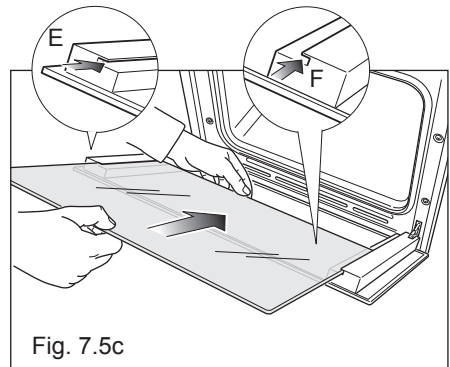

Fig. 7.5c
- Insert the inner pane in the left “E” and right “F” side guides (fig. 7.5c) and gently let it slide up to the retainers “H” (fig. 7.5d).